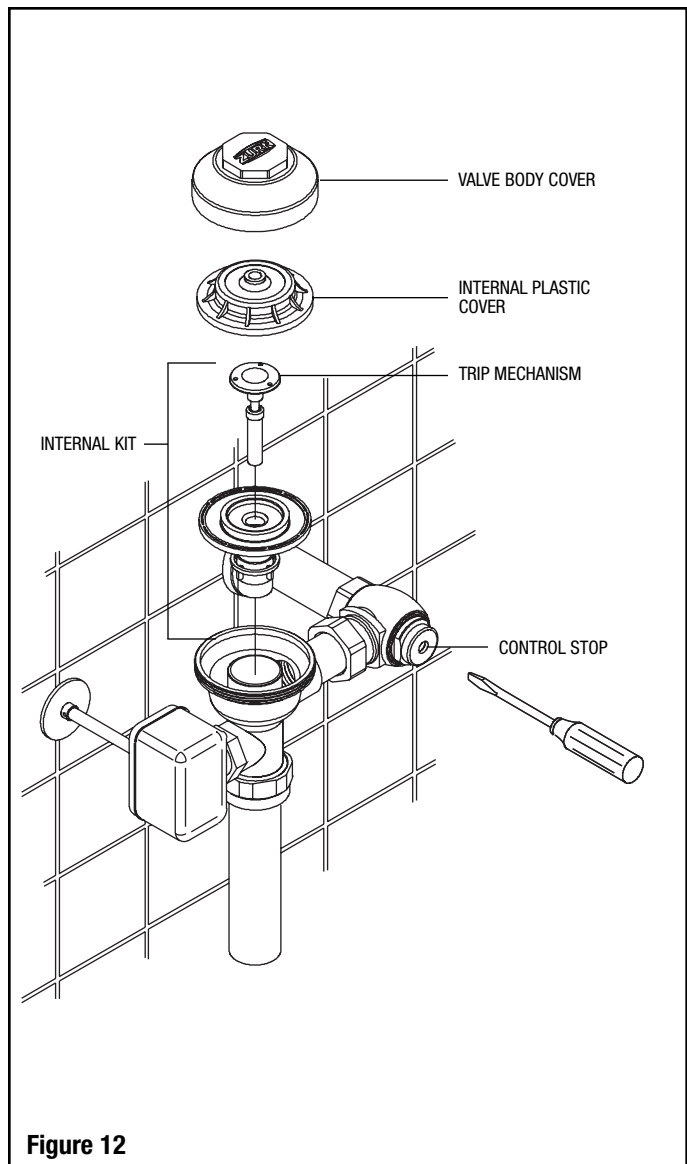

Figure 12
STEP 9 – Flush Out Supply Line (Figure 12)